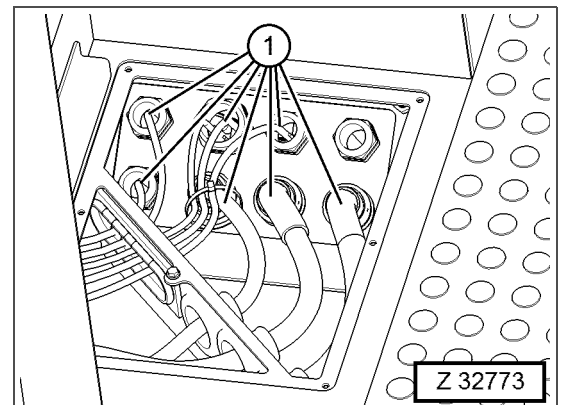

Fig. 3-307
14. Disconnect the wiring harnesses (Fig. 3-307, Pos. 1) behind the operator's seat.